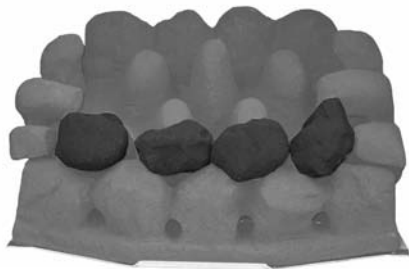

Fig. 15
5. Pick out the smallest two coals and lay to one side, lay the first row of four loose coals on top of the front coal. Ensure the back of the coals are resting on the coal bed and there are even gaps all round (Fig. 15).